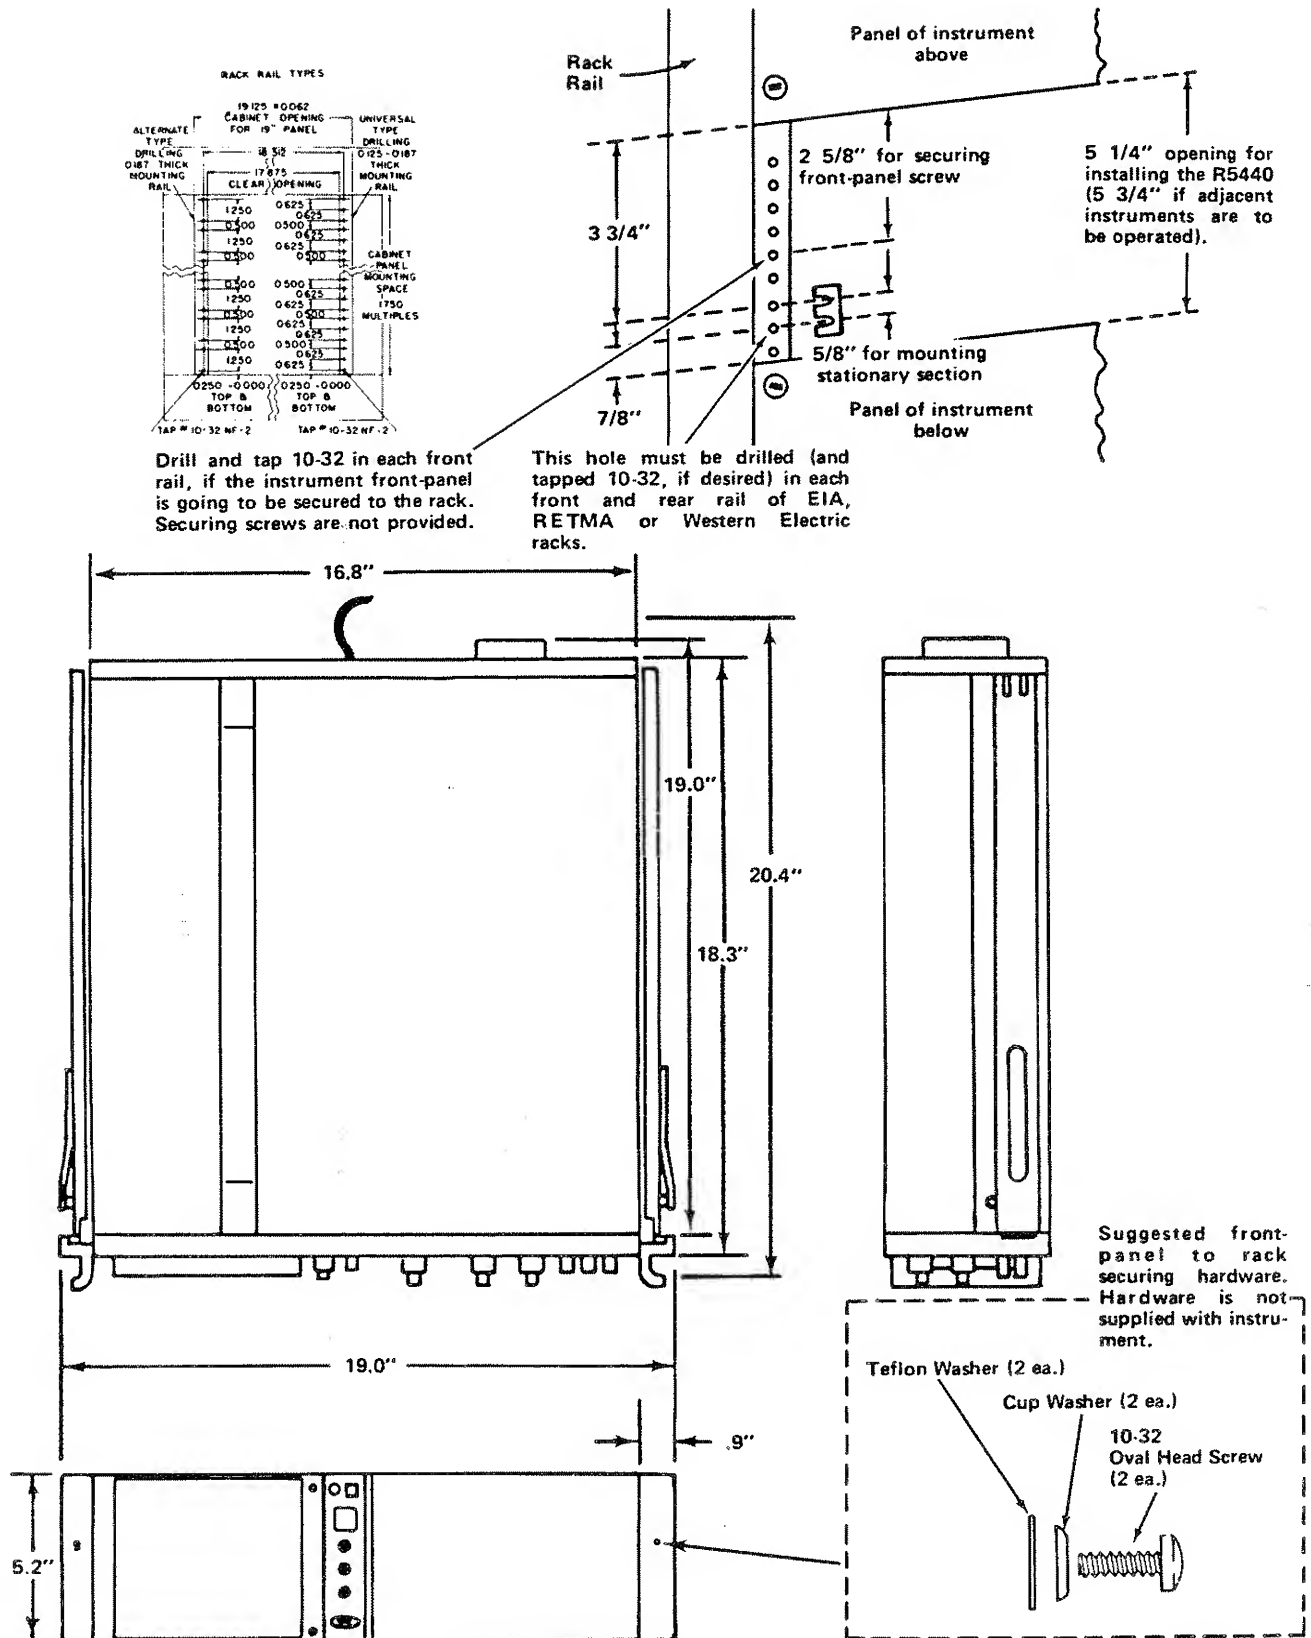

Fig. 1-5. Dimensional diagram.
1. To mount the instrument directly above or below another instrument in a cabinet rack, select the appropriate holes in the front rack rails for the stationary sections, using Fig. 1-5 as a guide.
To secure the instrument front-panel to the rack, the rack must either have universal hole spacing, or a hole must be drilled and tapped for a 10-32 screw, see Fig. 1-5. Using the hardware (not furnished) indicated in Fig. 1-5, secure the R5440 to the front rails of the rack.